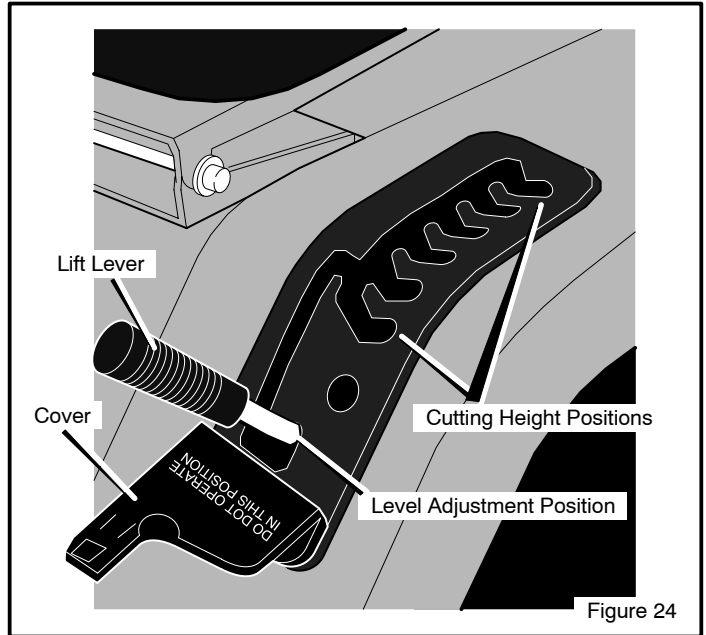

Figure 24
5. Move the **lift lever** to the LEVEL ADJUSTMENT position (Figure 24).